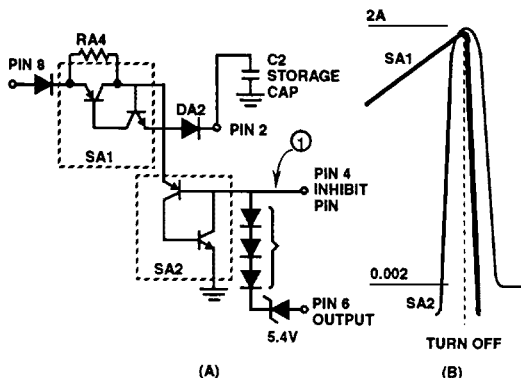

FIGURE 17 (A) (B). SCHEMATIC REPRESENTATION OF SCRs
decreases for C2 voltages below 5V. To understand why the voltage on C2 determines the maximum input current that the HV-2405E can safely turn off, its important to understand the electrical connection between SA1, SA2 and the storage capacitor C2. Figure 17(A) is a schematic representation of both SCRs and is presented to explain how SA2 turns off SA1.
Assume that SA1 is on and the current path is from pin 8 to pin 2. If a small current is pulled out of the base of SA2's pnp (point 1, Figure 17A) SA2 will turn on. When SA2 turns on the collector current of SA1's pnp no longer provides base drive to its npn and SA1 turns off. Figure 17(B) shows the current relationships for both SCRs.